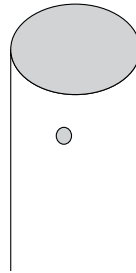

Figure 7
1. Locate the second 6-1/2" body tube. Using a leather punch or the point of the scissors, punch a small hole (approximately 3/16" in diameter) 3/4" from one end (Figure 7).